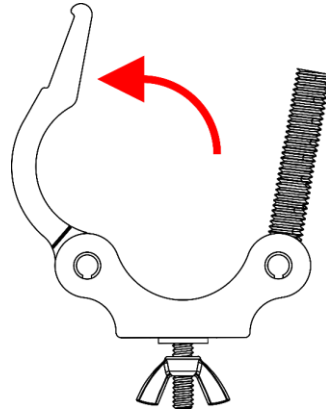

Fig. 04
- 01) Turn the **hex nut (01)** counterclockwise, to remove it.
- 02) Turn the **wing nut (02)** counterclockwise to remove it.
- 03) Open the **lock (11)**. See Fig. 04.